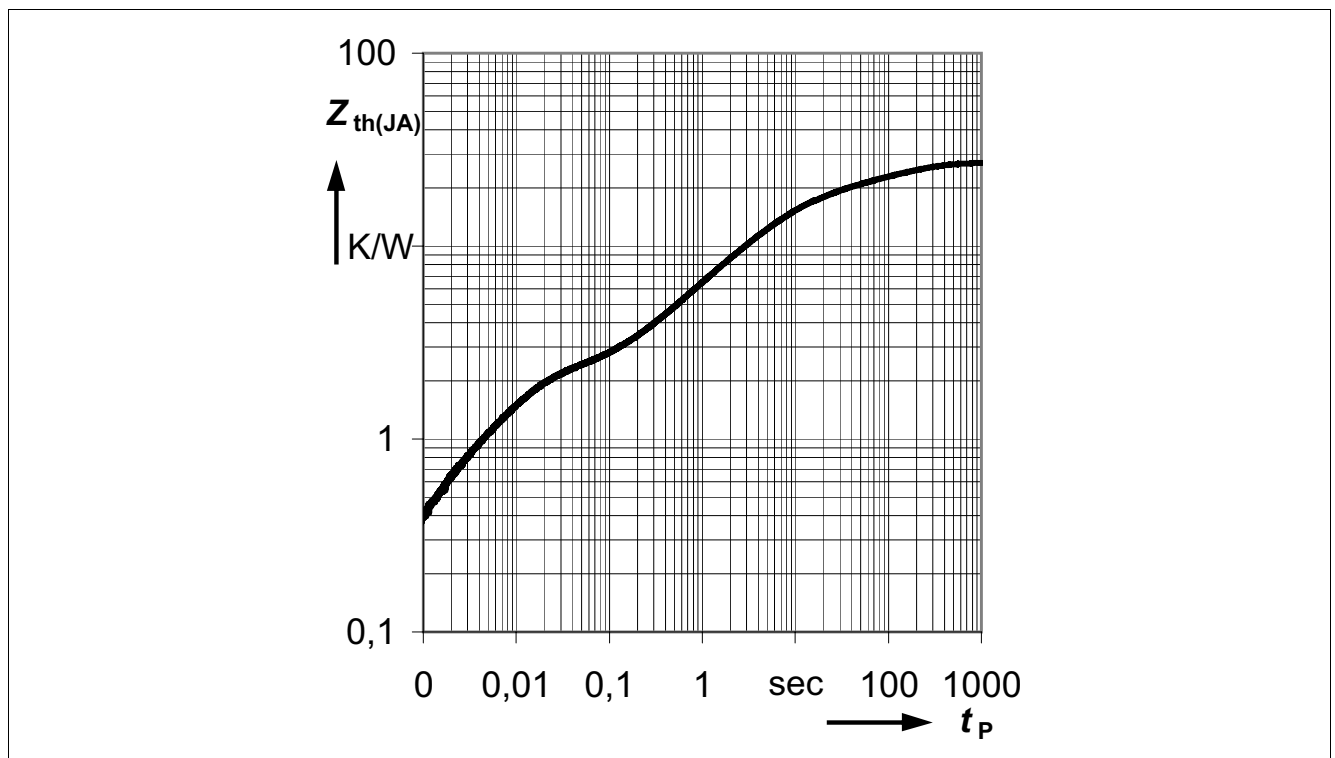

Figure 4 Transient Thermal Impedance $Z_{th(JA)} = f(t_p)$ ⁴⁾
4) Specified R_{thja} value and Figure 4 are according Jedec JESD51_7 at natural convection on FR4 2s2p board. The BTS50070-1EGA was measured on a 76.2 x 114.3 x 1.6 mm board with 2 inner copper layers (2 x 70µm Cu, 2 x 35µm Cu) applying power losses of 1.4W at the channel. According to JESD51-5 a thermal via array under the exposed pad contacted the first inner copper layer. $T_a = 25\text{ °C}$.
Figure 4 shows the typical transient thermal impedance of BTS50070-1EGA.